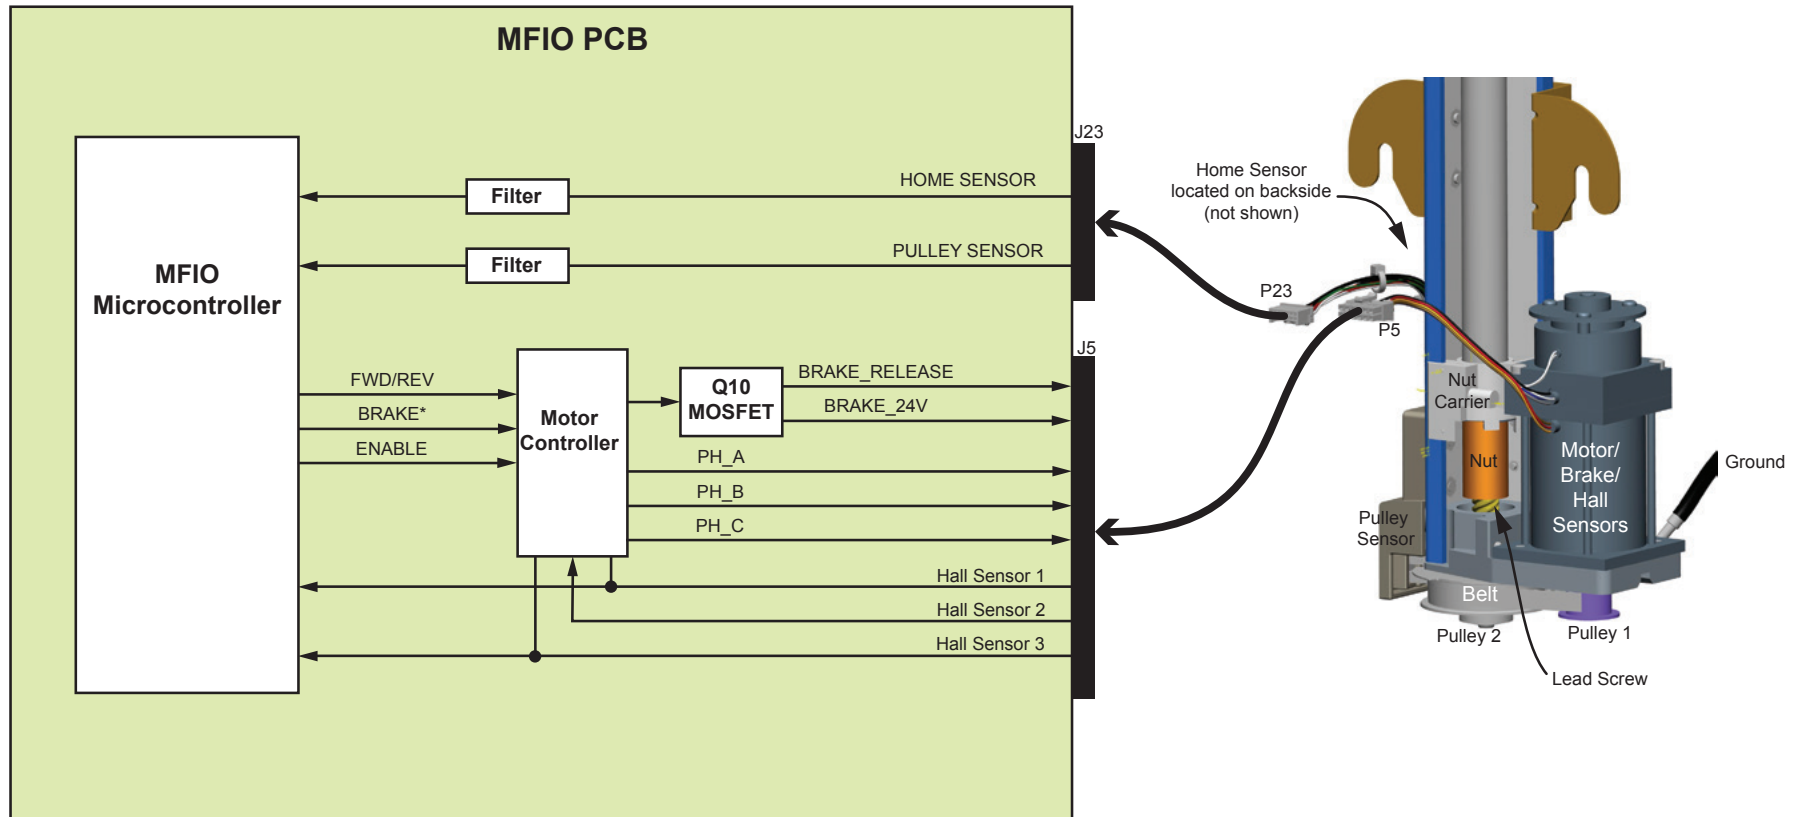

Figure 2-14 IV Pole Block Diagram
10. IV POLE (see *Figure 2-14*)